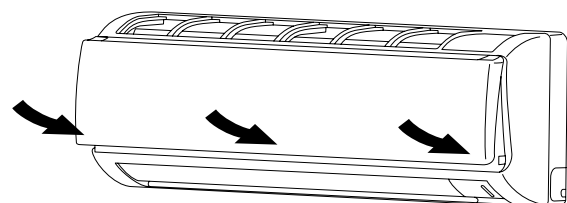

Fig. 3-27
- b) Press the bottom right and left corners and center of the air intake grille to attach it to the indoor unit. (Fig. 3-27)